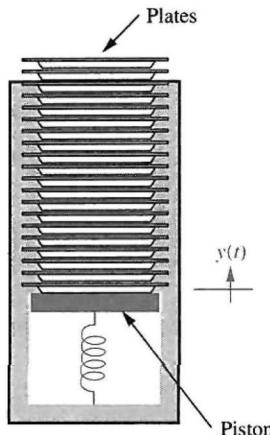

FIGURE P2.34 Plate dispenser
54. Consider the restaurant plate dispenser shown in Figure P2.34, which consists of a vertical stack of dishes supported by a compressed spring. As each plate is removed, the reduced weight on the dispenser causes the remaining plates to rise. Assume that the mass of the system minus the top plate is M , the viscous friction between the piston and the sides of the cylinder is f_v , the spring constant is K , and the weight of a single plate is W_D . Find the transfer function, $Y(s)/F(s)$, where $F(s)$ is the step reduction in force felt when the top plate is removed, and $Y(s)$ is the vertical displacement of the dispenser in an upward direction.